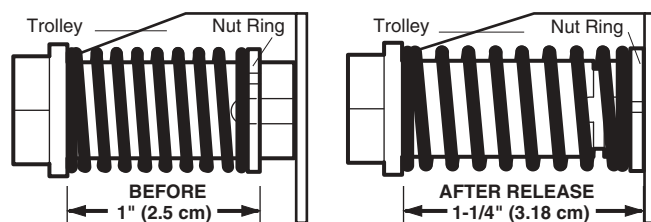

Figure 3
- Place a 7/16" open end wrench on the square end. Rotate about 1/4 turn until the spring releases and snaps the nut ring against the trolley (Figure 3).